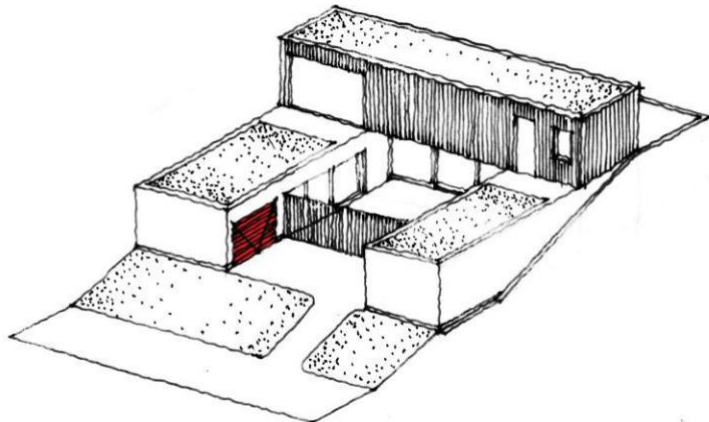
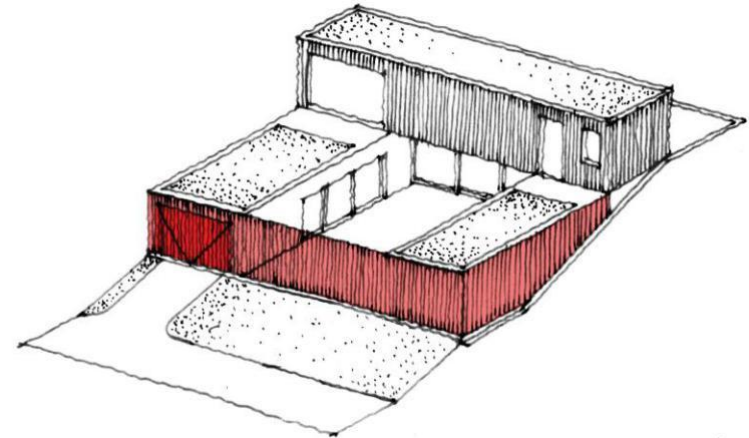

fig 08: Typical diagram illustrating garage door perpendicular to the road
fig 09: Typical diagram illustrating garage door concealed with timber cladding as a continuous element
- Garage doors may not face the street unless treated as a continuous element (see fig.08 & fig.09) through use of cladding (continuous material)